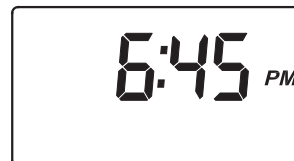

FIG. 22
2. The flashing "VAC" on the display should be replaced by the normal time of day screen, as shown in Figure 22.